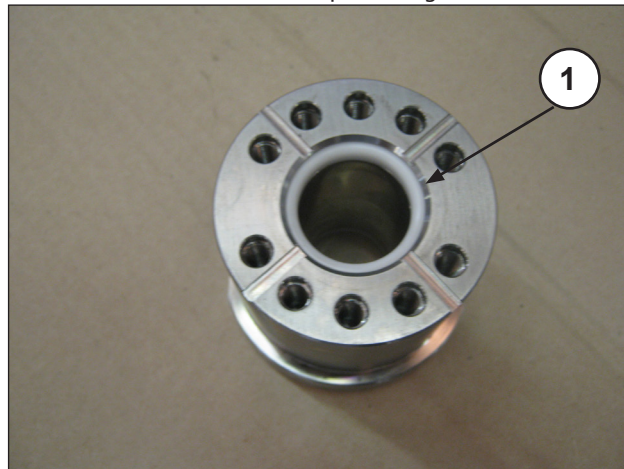

Fig. 55
- Insert the seal into the liner (pos. ①, Fig. 55).